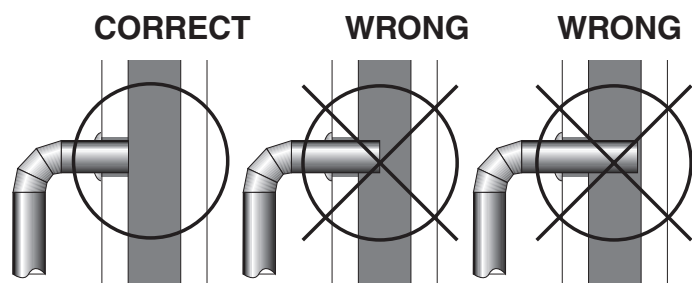

Fig. 5 – Stovepipe/Flue Connections
4. The pipe cannot extend into the chimney flue (figure 5).
5. Secure pipe/elbow sections with three (3) sheet metal screws at each joint to make the piping rigid.
6. It is recommended that no more than two (2) 90° bends be used in the stovepipe installation. The use of more than two 90° bends may decrease the amount of draw and possibly cause smoke spillage. Where possible, use only corrugated (nonadjustable) elbows. These provide a better seal.
2. Install a metal or fire clay (5/8" minimum thickness) thimble. Make sure the thimble is flush with the inner surface of the chimney liner and does not protrude into the flue (see figure 5 on page 4).
4. Install the stovepipe into the thimble as far as possible without extending past the flue lining (see figures 5 & 6 on pages 4 & 5).